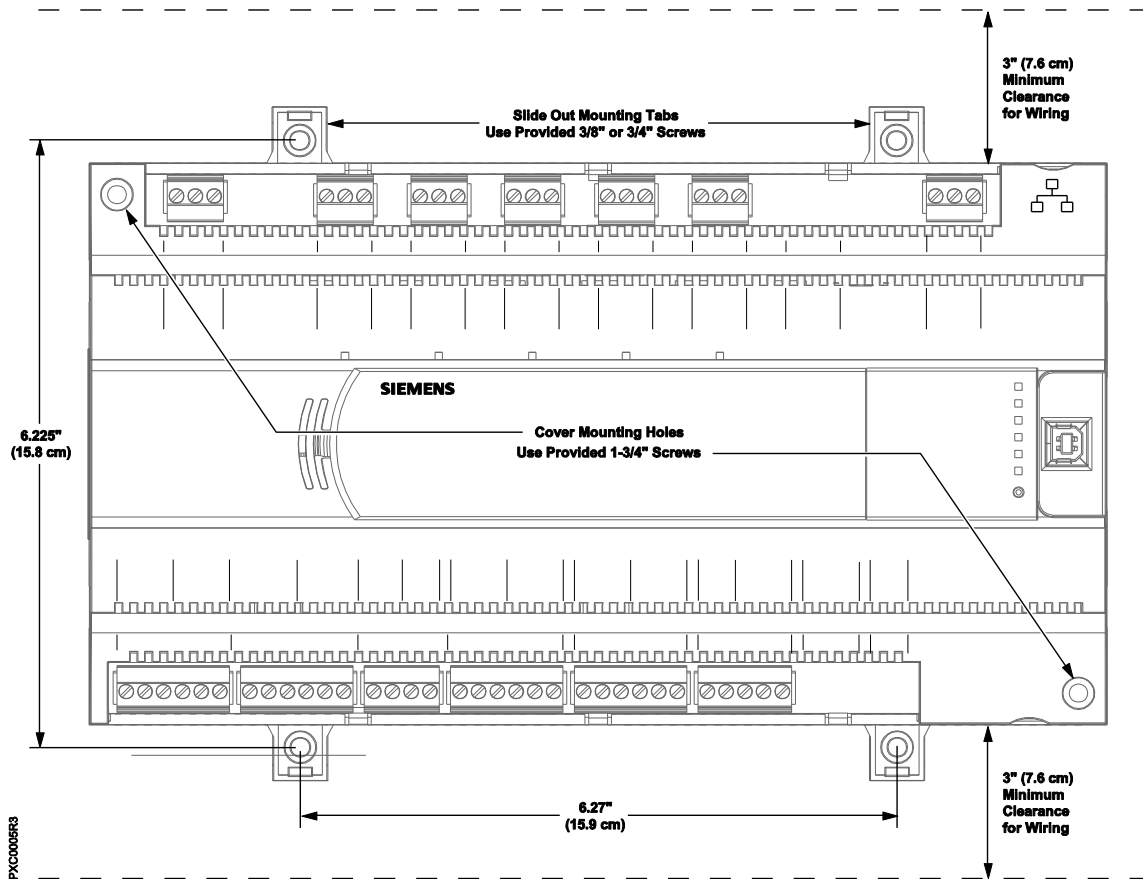

Figure 1. Front View of the PXC Compact Series (PXC-24 shown).
- Drive screws through the two mounting holes in the controller cover and through two mounting tabs at the opposite corners (see Figure 1).